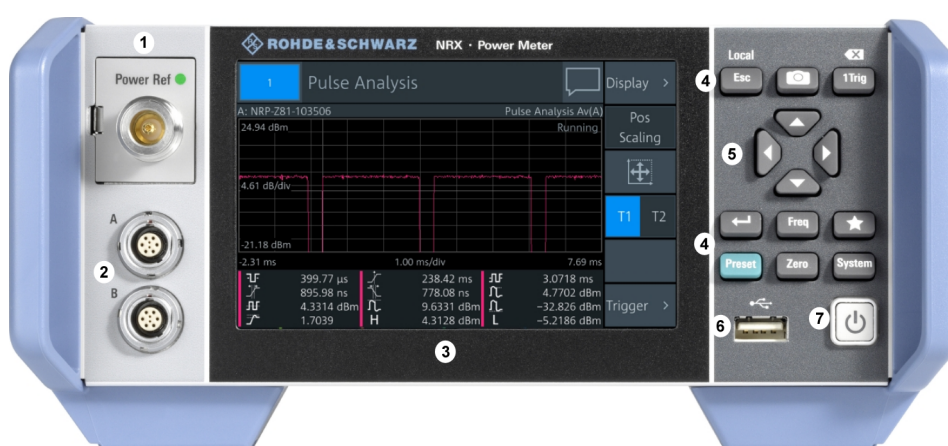

Figure 5-1: Front panel of the R&S NRX
See (2) in Figure 5-1.
See (1) in Figure 5-1.
See (3) in Figure 5-1.
See (4) in Figure 5-1.
See (5) in Figure 5-1.
See (6) in Figure 5-1.
See (7) in Figure 5-1.